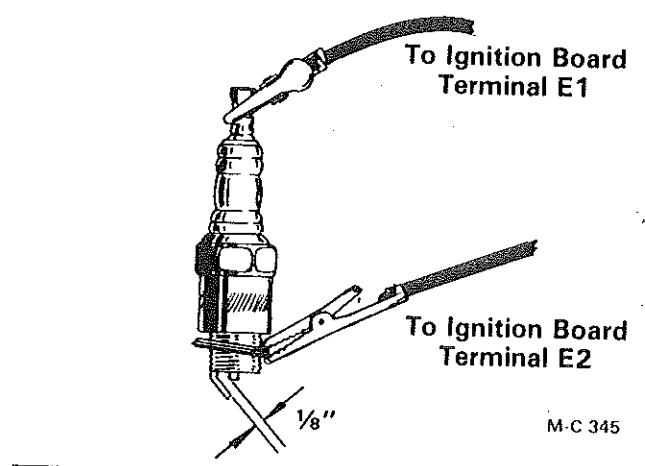

Figure 39
- C. Using a new properly gapped electrode (1/8 inch) or an automotive spark plug gapped to (1/8 inch) connect terminals E-1 and E-2 on the ignition board to the test electrode or spark plug with jumper wires, see Figure 39.